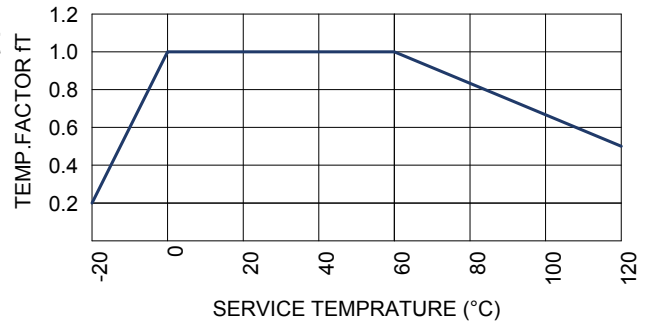

Fig.2 Temperature Factor
If the temperature of the screw nut exceeds the normal temperature range, the seizure resistance of the nut and the strength of the material will decrease. Therefore, it is necessary to multiply the dynamic permissible thrust (F) by the corresponding temp. factor indicated in Fig.2 .
fT : Temperature factor (see Fig.2 )